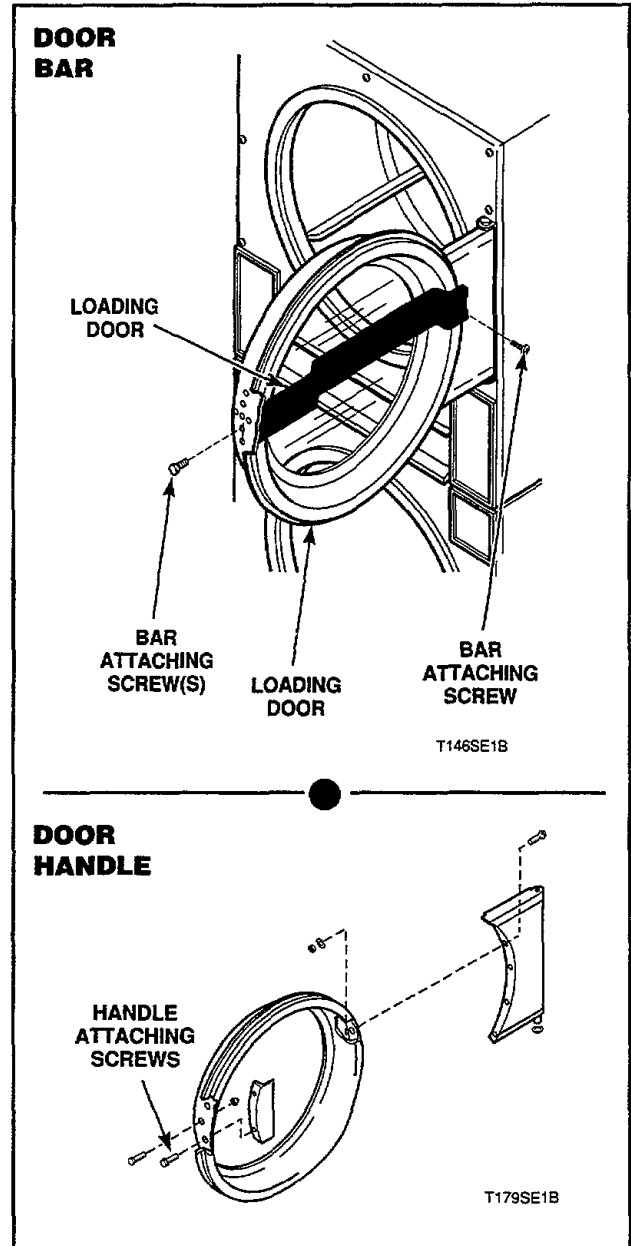

Figure 3
**4. DOOR BAR/HANDLE (Figure 3)**